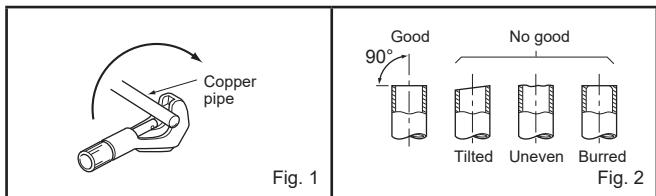

Fig. 1
- 3) Attach the conduit pipe to the conduit plate with the lock nut. The indoor/outdoor unit connecting wire (A) appearing from the inside of conduit pipe should be less than 7/8 in. (23 mm). (Fig. 1)
- The drain hose should point downward for easy drain flow. (Fig. 1)
- Cut the copper pipe as straight as possible with a pipe cutter. (Fig. 1, 2)